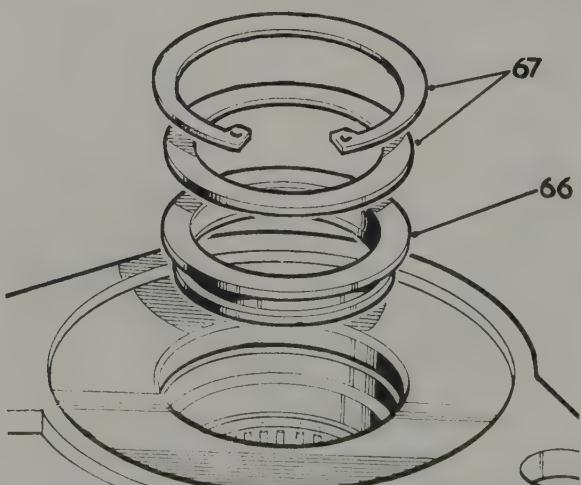

Fig. 11.46. Fitting input shaft oil seal (66) extrusion washer and circlip (67) to power steering box
- 33 Fit the input shaft oil seal (lip leading) into the housing, followed by the extrusion washer and circlip (Fig. 11.46).